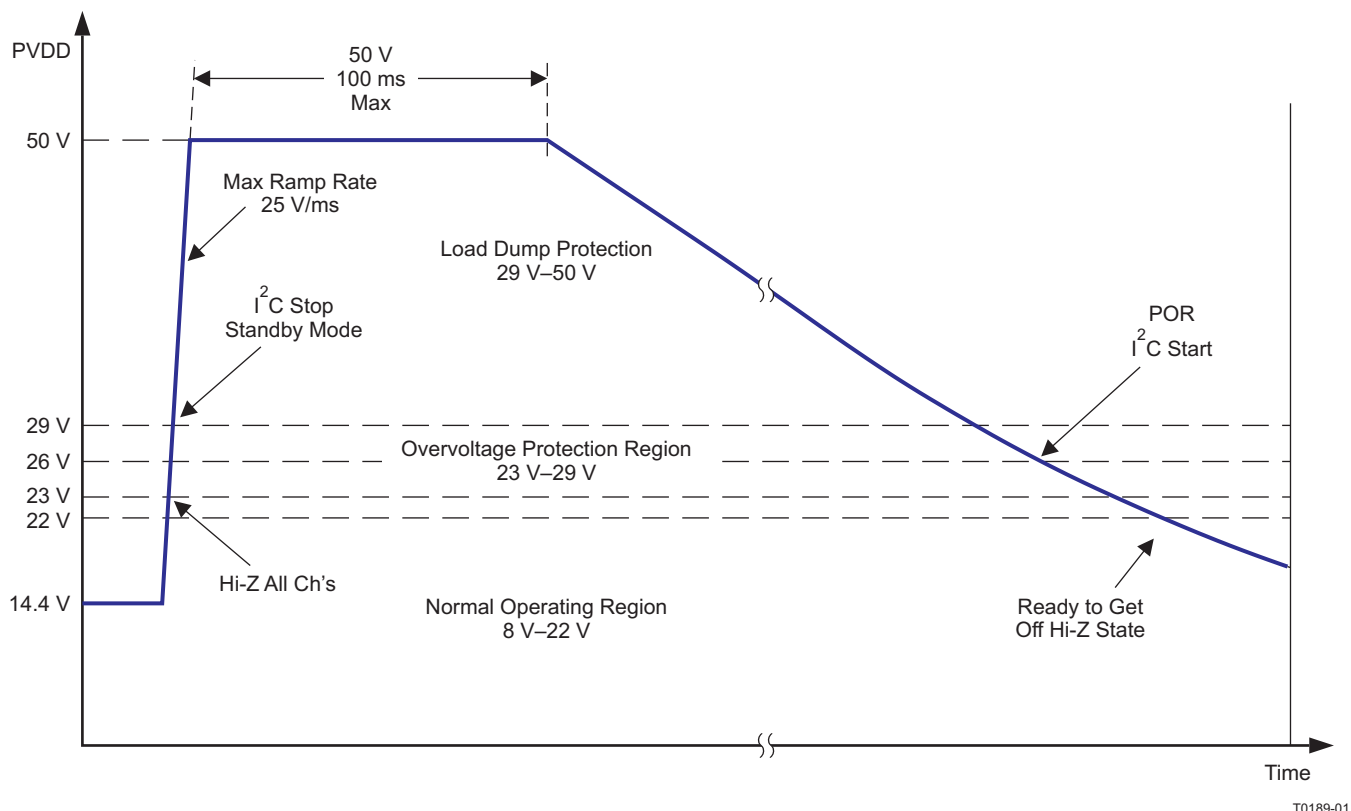

Figure 15. Voltage Operating Regions With Load Dump Transition Defined
6. **Undervoltage (UV) and Power-on-Reset (POR)**—The undervoltage (UV) protection detects low voltages on PVDD, AVDD, and CP. In the event of an undervoltage, the $\overline{\text{FAULT}}$ pin is asserted and the I²C register is updated, depending on which voltage caused the event. Power-on-reset (POR) occurs when PVDD drops low enough. A POR event causes the I²C to go into a high-impedance state. After the device recovers from the POR event, the device must be re-initialized via I²C.
7. **Overvoltage (OV) and Load Dump**—The OV protection detects high voltages on PVDD. If PVDD reaches the overvoltage threshold, the $\overline{\text{FAULT}}$ pin is asserted and the I²C register is updated. If the voltage increases beyond the load dump threshold of 29 Vdc, the device shuts down and must be restarted once the voltage returns to a safe value. After the device recovers from the $\approx$ load dump event, the device must be re-initialized via I²C. The TAS5414A and TAS5424A can withstand 50-V load-dump voltage spikes (see Figure 15). Also depicted in this graph are the voltage thresholds for normal operation region, overvoltage operation region, and load-dump protection region. Figure 13 shows the regions of operating voltage and the profile of the load dump event. Battery charger voltages from 25 V to 35 V can be withstood for up to 1 hour.